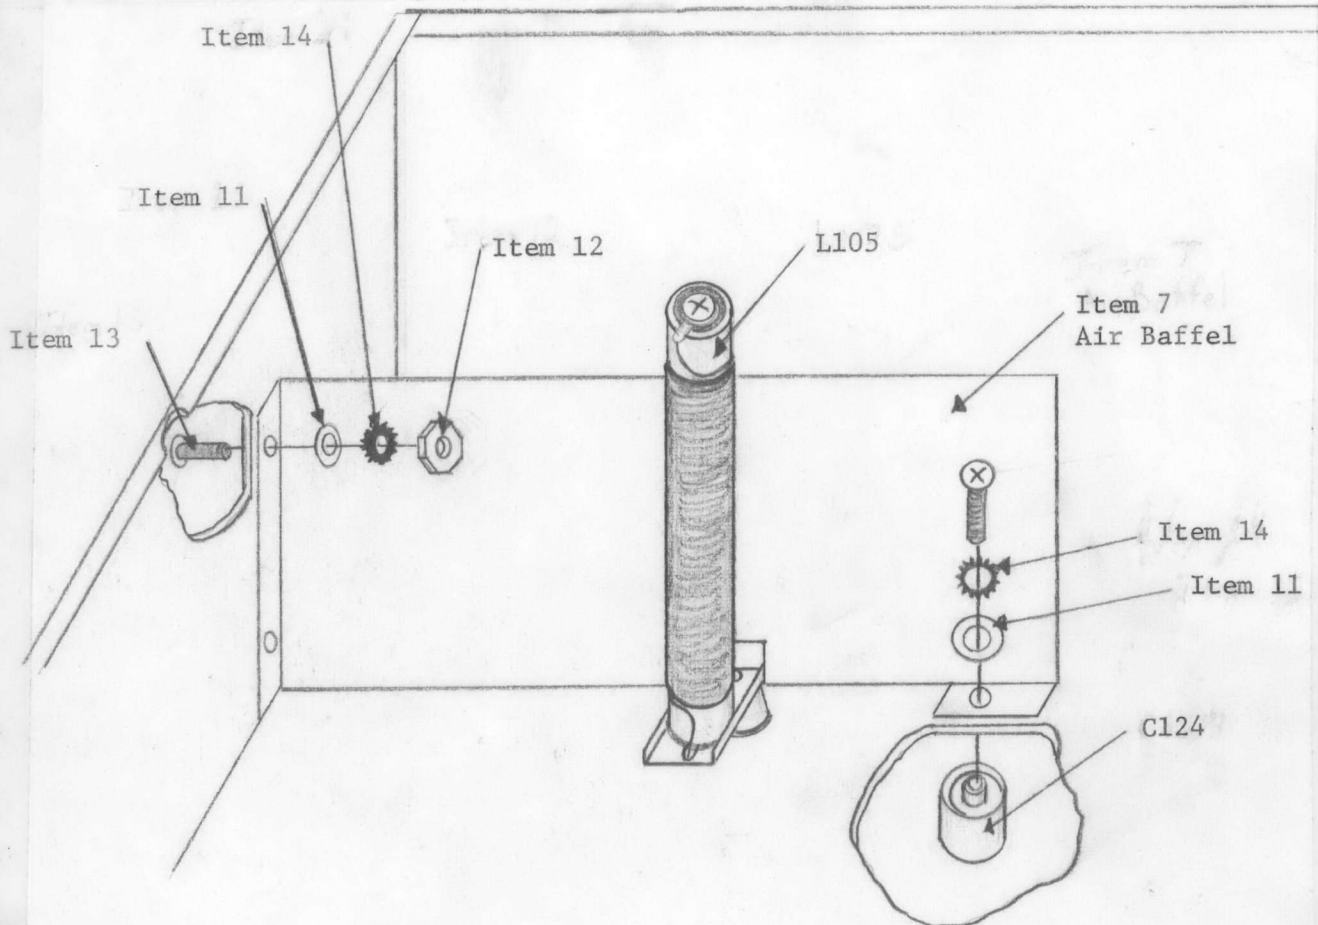

FIG. 1
2. Unscrew the mounting screw to C124 and insert the air baffel as shown in Figure 1.